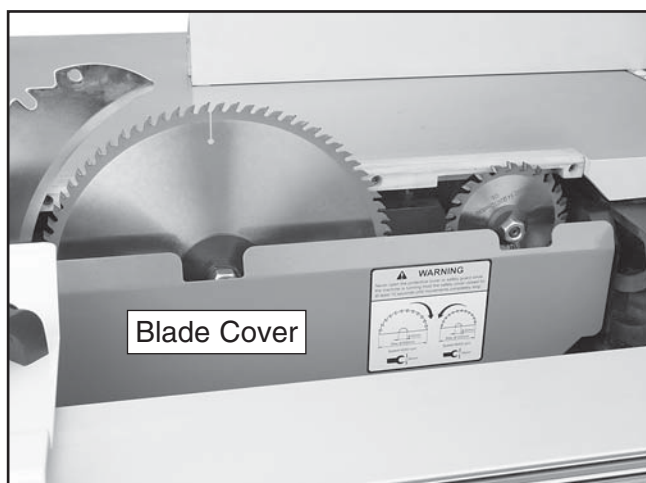

Figure 68. Internal blade cover exposed.
3. Move the sliding table all the way forward to expose the internal blade cover, as shown in **Figure 68**.